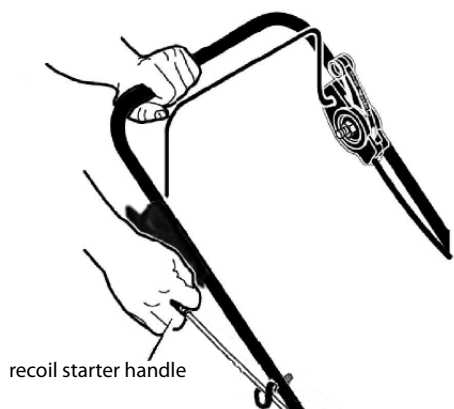

Figure 7: Using the recoil starter handle to start the engine.
4. Firmly hold the recoil starter handle with your right hand. **SEE FIGURE 7.**